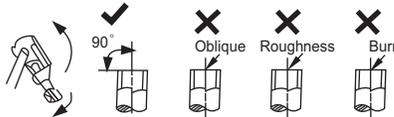

Fig. 21 – Pipe Cutting
- a. Cut the pipe, with a pipe cutter, at 90 degrees (see Fig. 21).